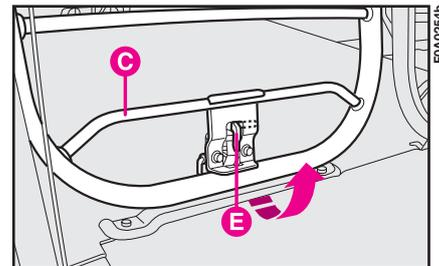
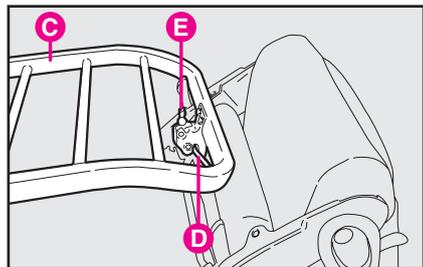

fig. 57
fig. 58
**Fastening the ladder:** Tip the seat as described previously, release the ladder **C-fig. 57** from its housing using lever **E** and fasten it to handle **D-fig. 58** on the seat. Make sure it is fastened well.